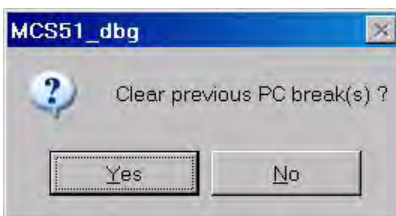

Figure 12. Break Debug Dialog
5. If previous PC breakpoints exist in the debugger environment, the Break Debug dialog box will appear, as shown in Figure 12. Click **Yes** if you wish to remove these breakpoints, or **No** if you prefer to retain them.